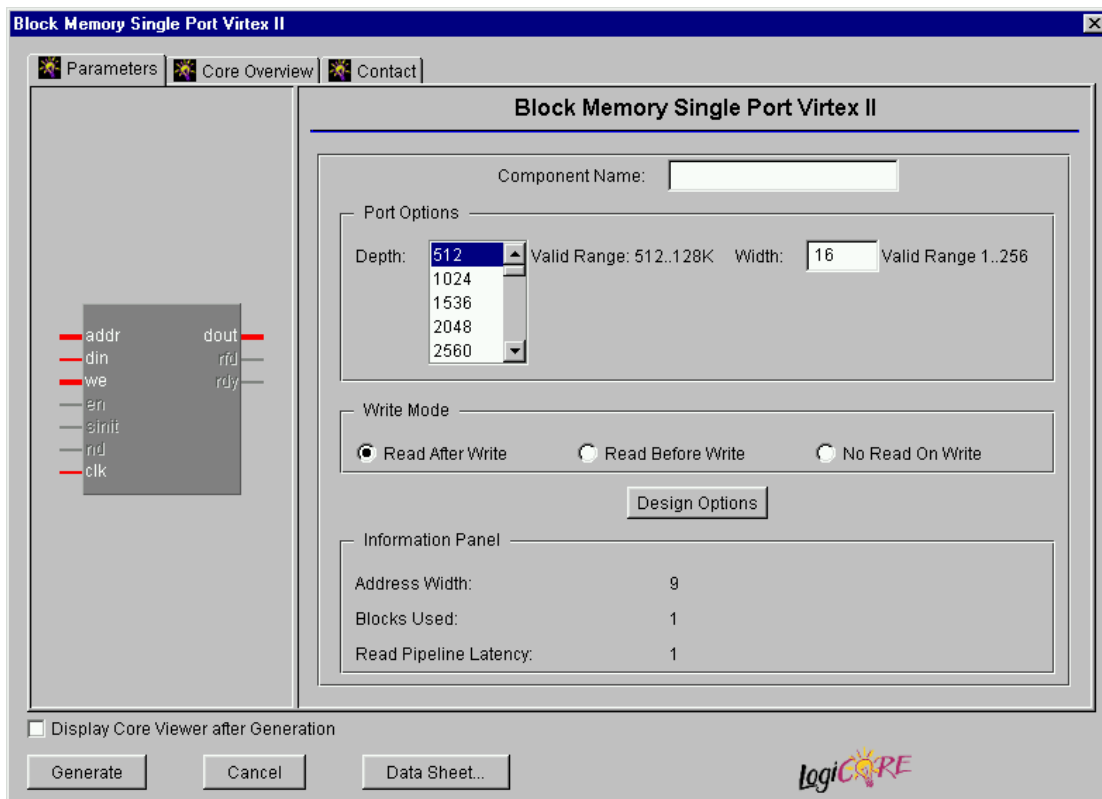
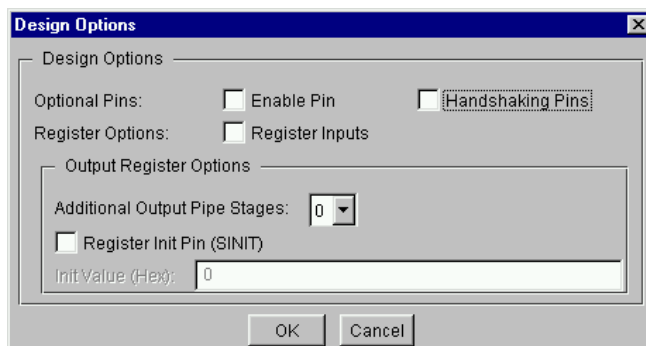

Figure 2: Single Port Block Memory Main Parameterization Window
Figure 3: Single Port Design Options Window
The CORE Generator parameterization window for this module is shown in Figure 2 and Figure 3. In Figure 2, the window allows the memory ports to be defined. An information window, which is useful in verifying that the total number of blocks required does not exceed those available on the targeted device, is also shown at the bottom. In Figure 3, the window allows configuration of the design options. The available options are described below.
- **Design Option:** Press this button to display the design options dialogue box on the screen. The resulting display is shown in Figure 3.